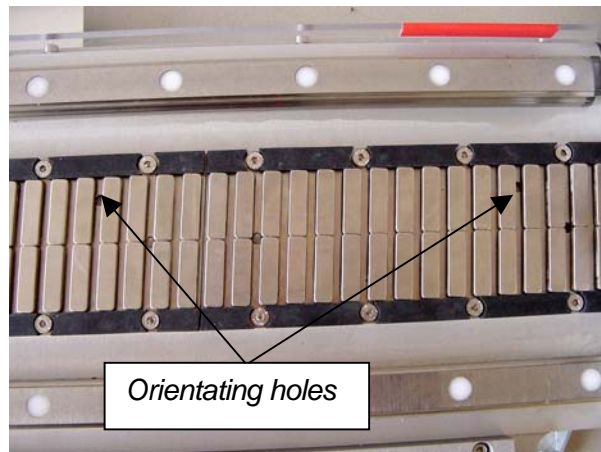

Figure 11: Orientating the magnet plates
3. Take care that magnet plate is well orientated. Finally all magnet plates should be orientated in an equal direction. For example, all magnet plates could be placed in such a way that the orientating holes are directed in the right upper corner (see Figure 11: Orientating the magnet plates)